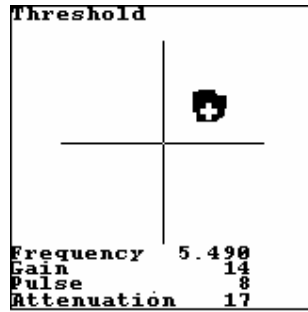

Fig. 16
8. Move the Transducer along the flaw free area at any appropriate speed (up to 100 mm/s) during 0.5 – 1min. The marker on the screen will be moving, drawing a specific trajectory on the gain-phase plane – the admissible impedance zone. This trajectory shows the impedance value in the different points of the flaw free area, taking into consideration the friction noises (Fig. 16). The **Threshold** tuning submode permits to change the **Attenuation** value using LEFT, RIGHT keys. The drawn zone may be deleted from screen by pressing the UP key. The marker may be positioned to zero by pressing DOWN key. These features permit to adjust the device sensitivity and build the most appropriate admissible impedance zone for the current tuning.